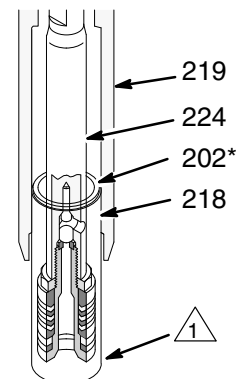

Fig. 30 0030
- Install the new o-ring (202*) on top of the sleeve (216). Insert the piston rod (224) assembly into the **top of the sleeve**. Slide the sleeve assembly into the **bottom of the cylinder**. Note that the tapered end of the sleeve is the bottom. See Fig. 30.